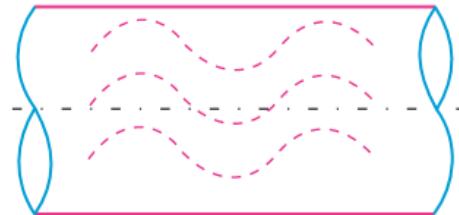

Fig. 5.6. Turbulent flow.
**Turbulent flow.** A turbulent flow is that flow in which fluid *particles move in a zig zag way* (Fig. 5.6).